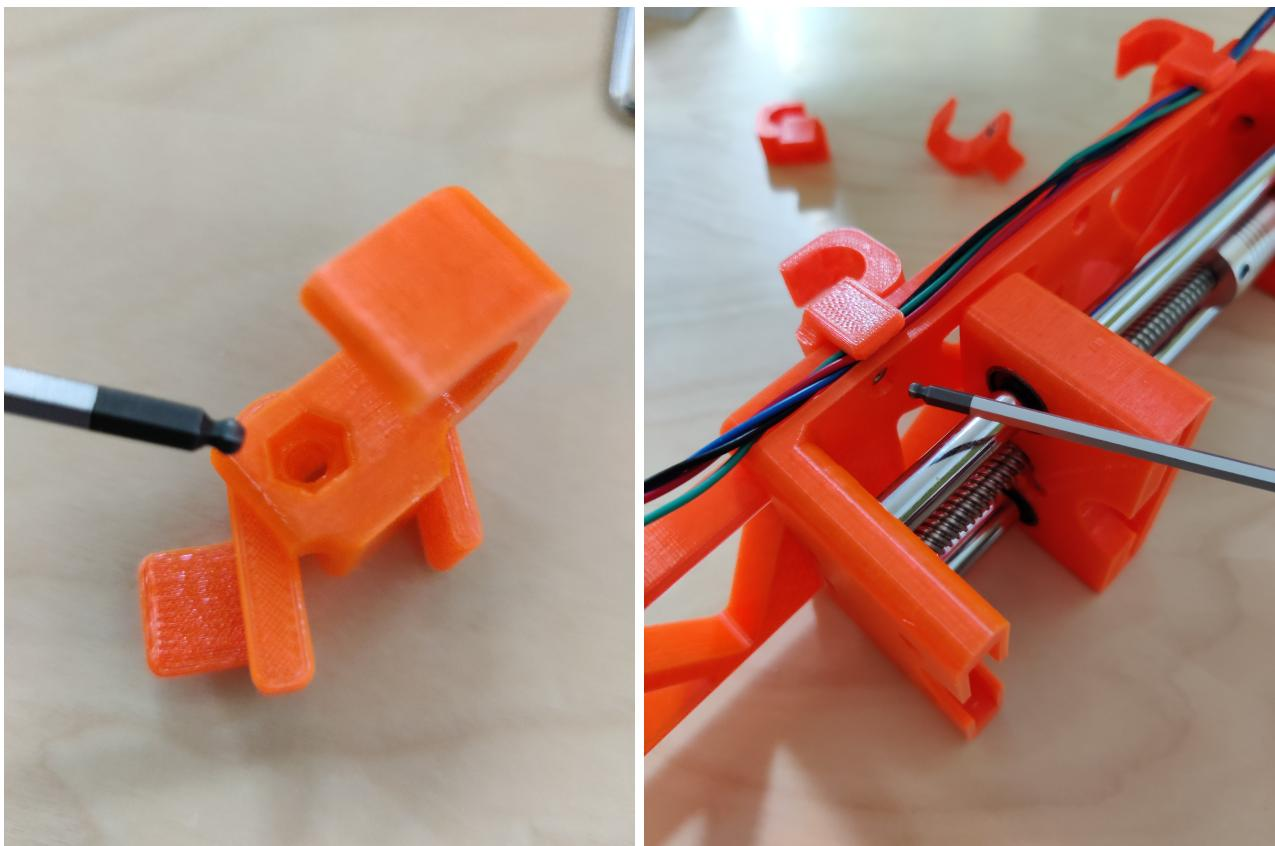

Fig. 4.8
7) Take the four hooks from the pump kit and push in the 3 mm nuts into the hexagonal holes (Figure 4.8, left). Install the hooks on the pump body in the top and bottom holes on the pump body, using the 4 M10 screws. The hooks should be installed so that the pump can hang with the motor facing upwards. When installing the left hooks, make sure to put the wires from the motor into the pump body ridge and fixate the wires with the hooks (Figure 4.8, right).